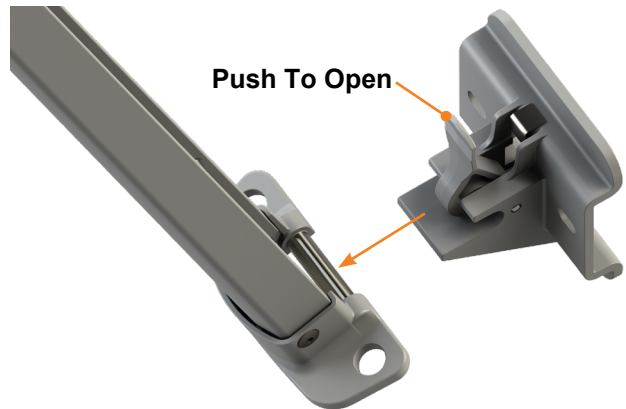

Fig.8
8. Lift the support arm assembly up and secure the feet into the previously installed bottom mounting brackets by pressing the lever and opening the latch (**Fig.8**).
1. After the arm is fully extended, remove the outer arm from the side of the unit by releasing the lever on the lower mounting bracket (**Fig.8**).